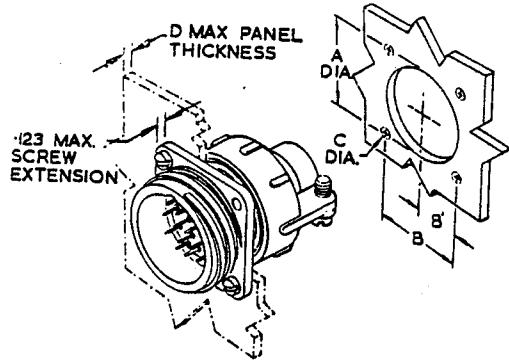

Fig. 2. Standard flange receptacle front mounting (Table 2)
10. (1) Front mounting — The method used to front mount KM, Mk.2 receptacles with a standard flange is shown in fig.2. The end-bells must be removed from the shell and re-assembled after the shell has been mounted to the panel.
Standard flange receptacle front mounting dimensions (fig.2).